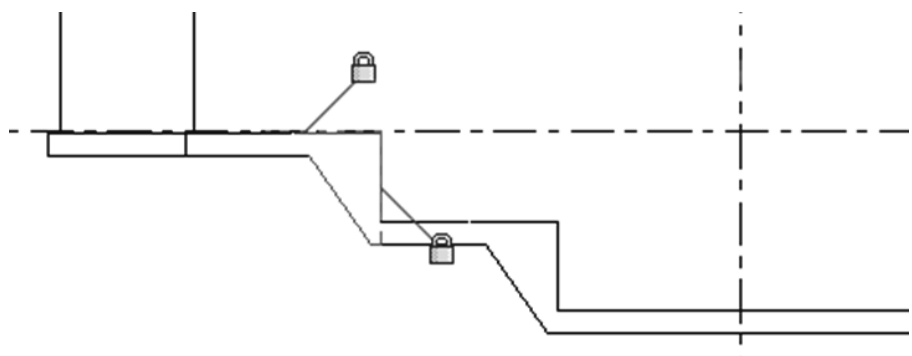

Figure 7–47
- Some custom families have sizing options in either Properties (per instance) or in the Type Properties (as shown in Figure 7–48) so that you can create additional types in various sizes as needed in the project.